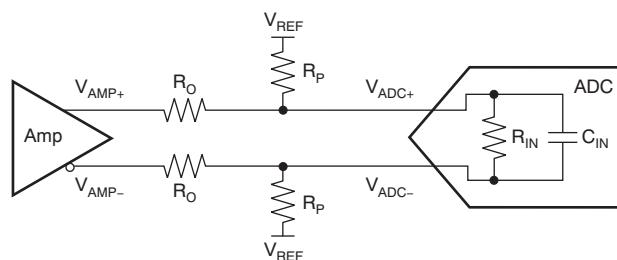

Figure 69. Resistor Network to DC Level-Shift Common-Mode Voltage
0.95 V, respectively. As shown in Figure 69, a resistor network can be used to perform a common-mode level shift. This resistor network consists of the amplifier series output resistors and pull-up or pull-down resistors to a reference voltage. This resistor network introduces signal attenuation that may prevent the use of the full-scale input range of the ADC. ADCs with an input common-mode closer to the typical 2.5-V LMH5401 output common-mode are easier to dc-couple, and require little or no level shifting.
For common-mode analysis of the circuit in Figure 69, assume that $V_{AMP\pm} = V_{CM}$ and $V_{ADC\pm} = V_{CM}$ (the specification for the ADC input common-mode voltage). V_{REF} is chosen to be a voltage within the system higher than V_{CM} (such as the ADC or amplifier analog supply) or ground, depending on whether the voltage must be pulled up or down, respectively; R_O is chosen to be a reasonable value, such as 24.9 Ω . With these known values, R_P can be found by using Equation 15: